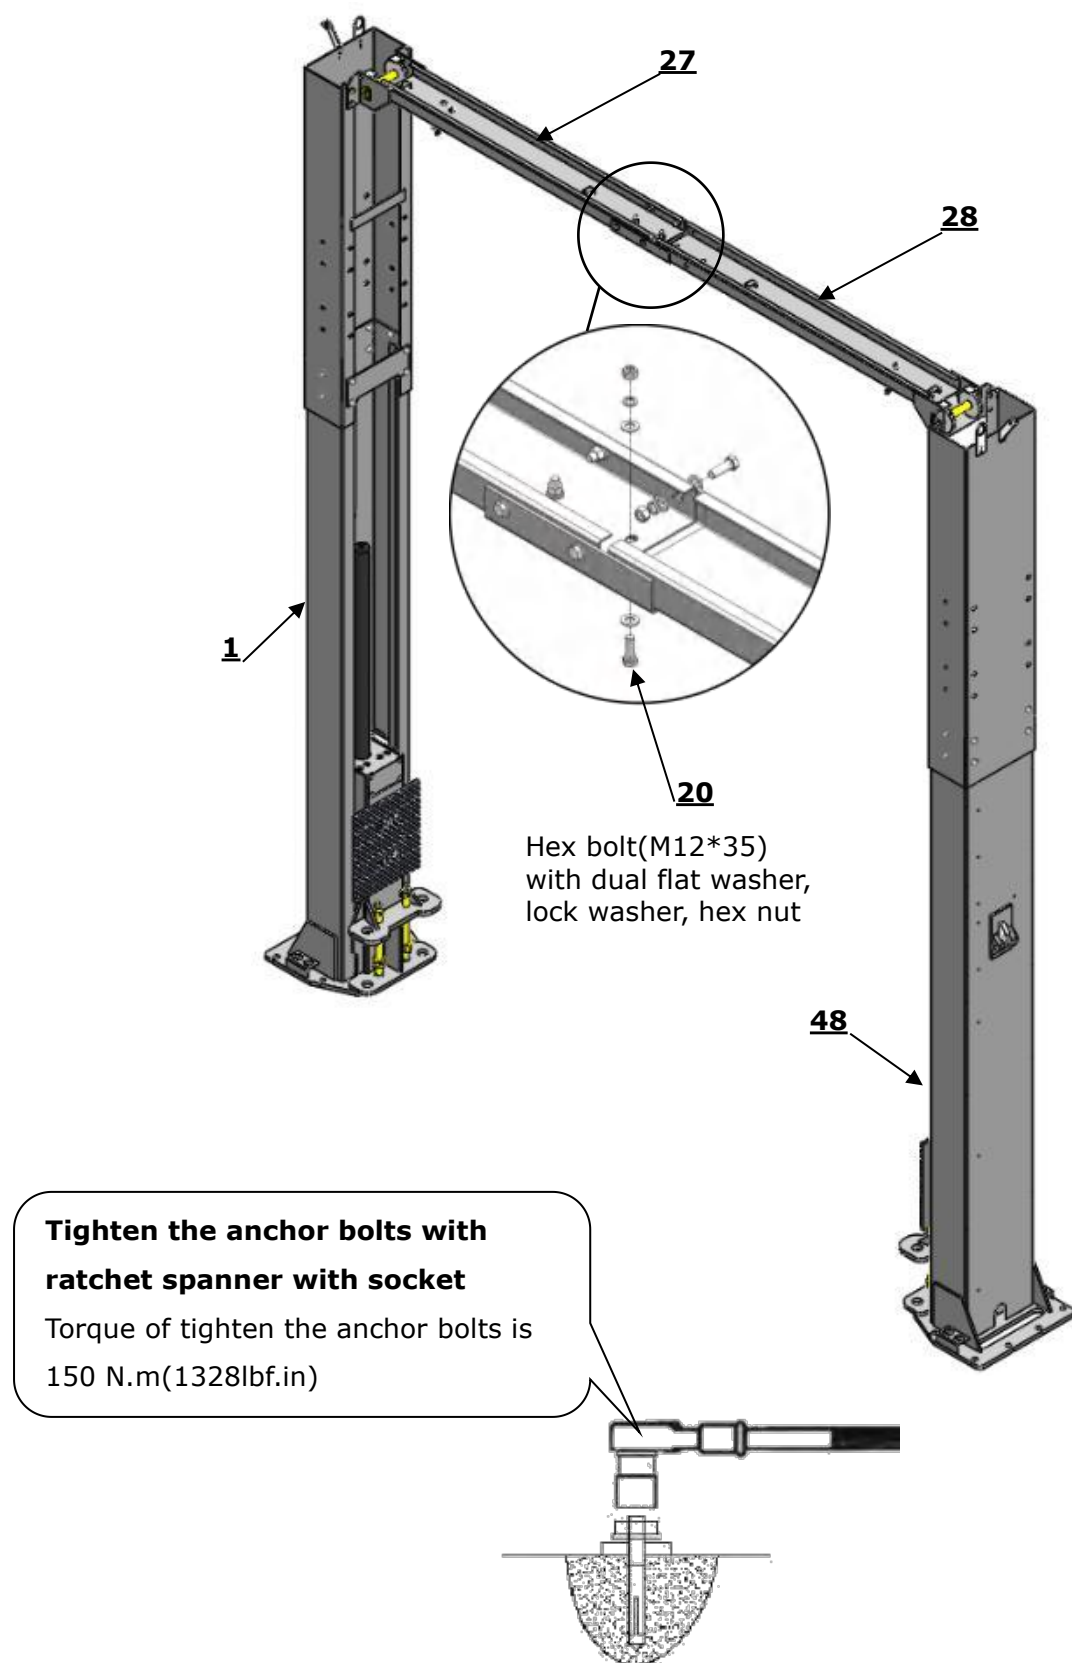

Fig.25
2. Hang the hook of top beam (Without limit switch) on the offside outer column, tighten the the bolts which connect both top beams. Finally tighten the anchor bolts. **(See Fig. 25)**